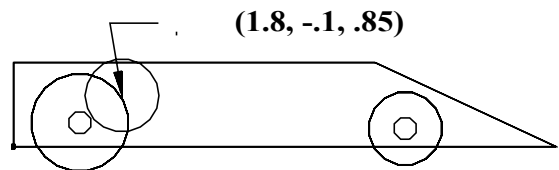

FIG. 14
Step 14. In the Side View, move cursor to coordinates **(1.8, -1, .85)** and click for the center of the motor, **Fig. 14**.